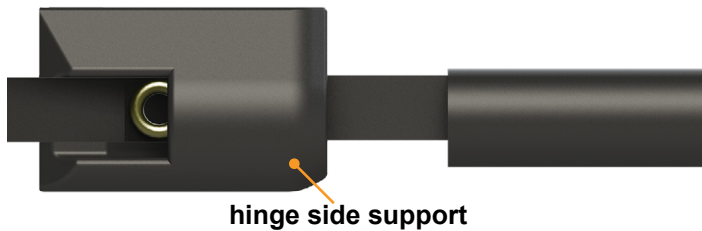

Fig.1
2. Thread webbing through loose hinge side support (Fig.1).